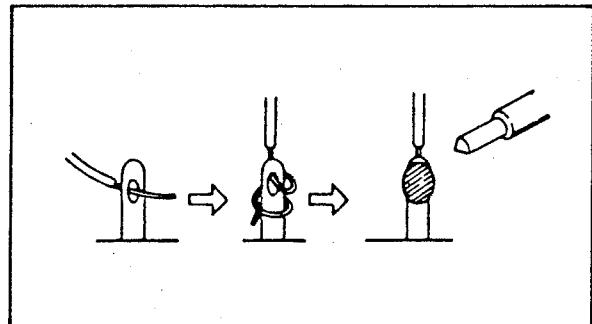

Fig. 1
5. When replacing AC primary side components (transformers, power cords, noise blocking capacitors, etc.) wrap ends of wires securely about the terminals before soldering (Fig. 1)